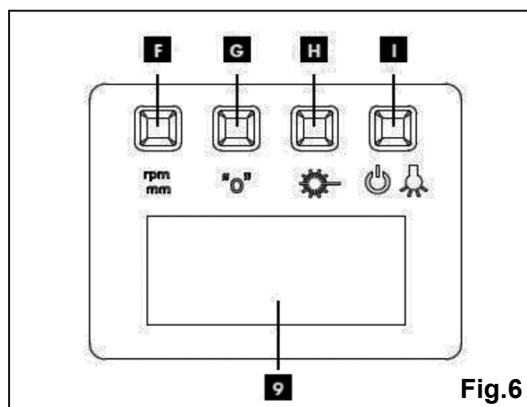

Fig.6
- 1 Switching the display on/off: Press the button one for five seconds until the display (9) switches on or off.
- 2 The display can be switched between displaying the speed and the drilling depth by pressing (F) button.
- 3 The zero point for the drilling depth can be set by pressing the (G) button.
- 4 The laser cross can be switched on or off by pressing the (H) button.
- 5 The LED work light can be switched on or off by pressing the (I) button.(Fig.6)
- 3 Set the zero point by pressing the button (Fig. 6) Drill until the desired depth is shown on the display